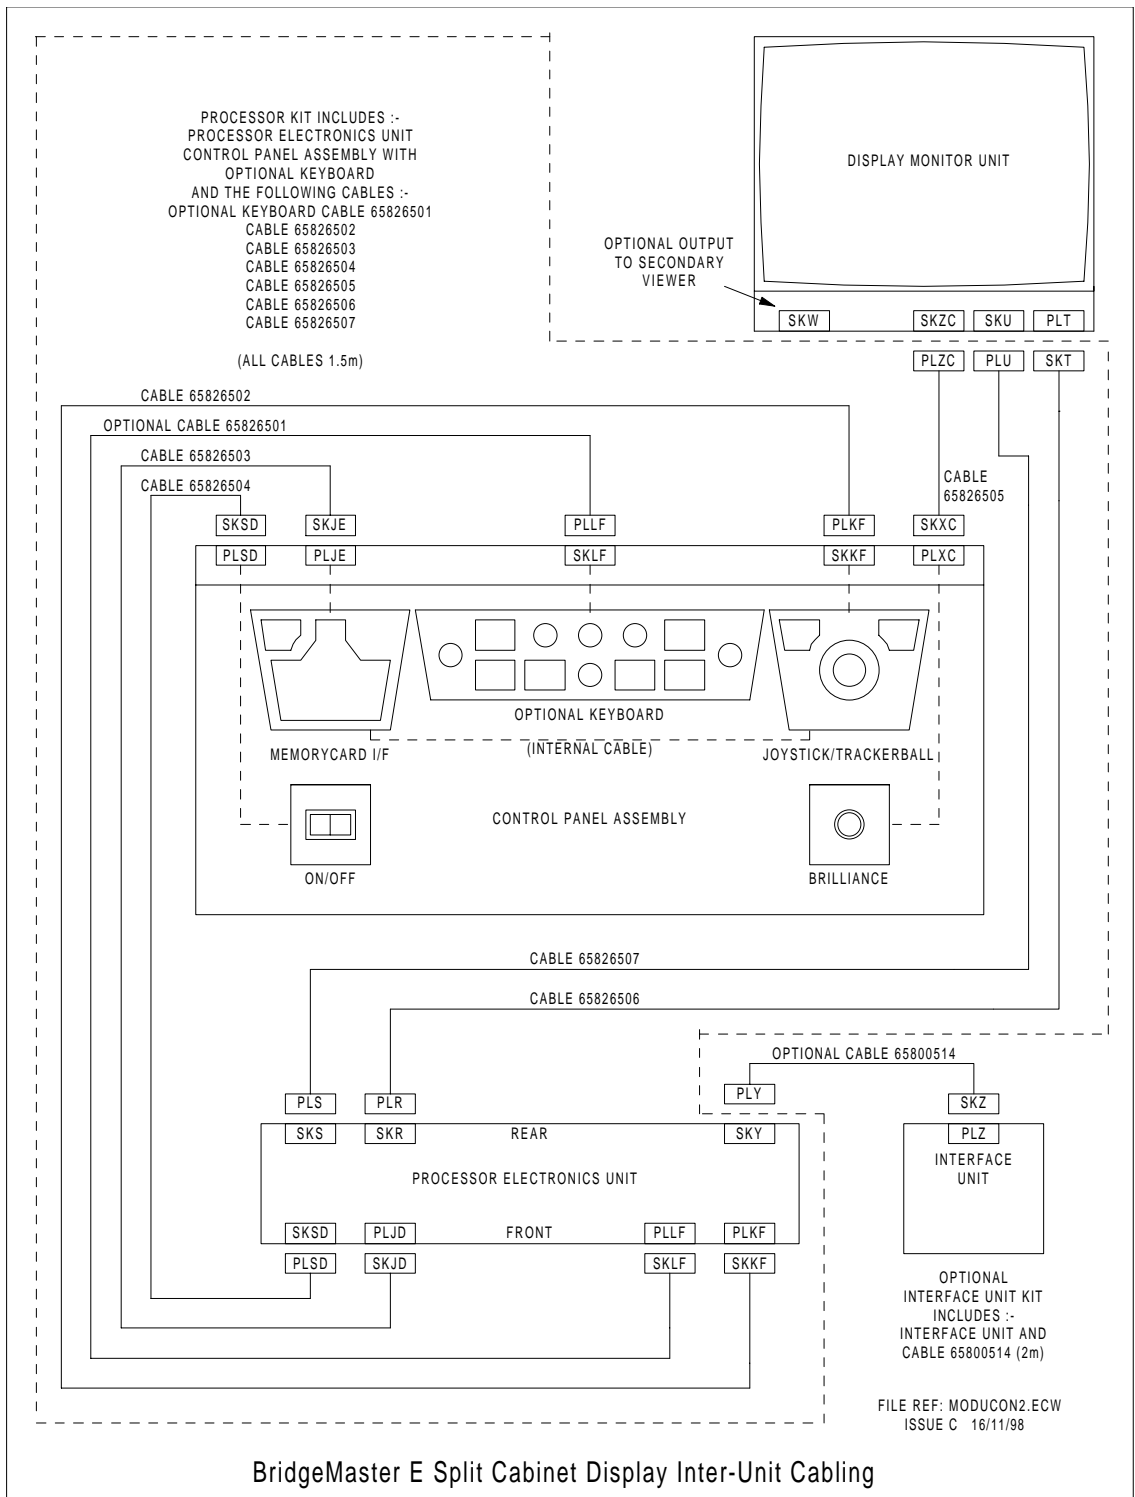

Figure 3.13 - Split Cabinet Display Unit Inter-Module Cabling
- Figure 3.13 Split Cabinet Display Unit Inter-Module Cabling